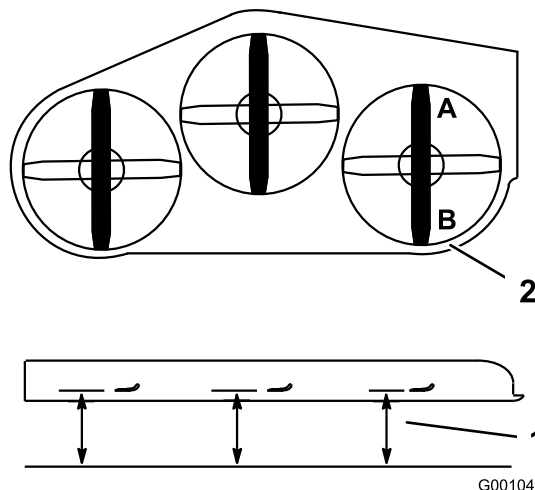

Figure 84
1. Position the **right** blade front-to-rear (Figure 84).
2. Measure the right blade at the **A** location, from a level surface to the cutting edge of the blade tip (Figure 84).
4. Measure the right blade at the **B** location, from a level surface to the cutting edge of the blade tip (Figure 84).
6. The mower blade should be a 1/4 to 3/8 inch (6 to 10 mm) lower at position **A** than at position **B** (Figure 84). If it is not correct, proceed to the following steps.